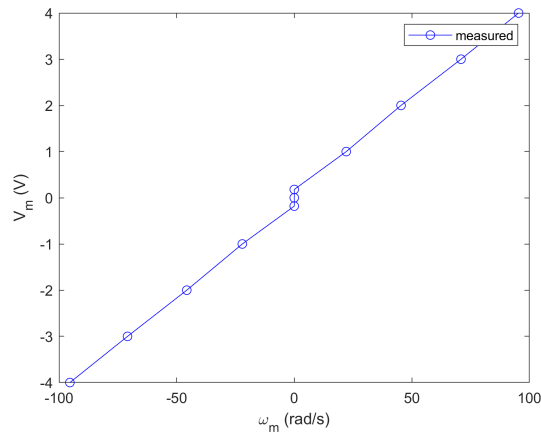

Figure 2.2: Measured Coulomb and viscous friction
7. Create a script in MATLAB to generate a plot similarly as shown in Figure 2.2, where the x-axis is the measured velocity and the y-axis is the applied voltage.